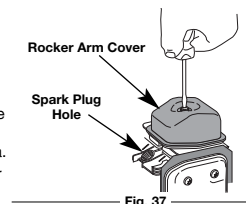

Fig. 37
- Clean dirt from around the rocker arm cover. Remove the screw holding the rocker arm cover with a large flat blade screwdriver or Torx T-25 bit (Fig. 37). Remove the rocker arm cover and gasket.
- The piston is at the top of its travel while looking in the spark plug hole (Fig. 37).